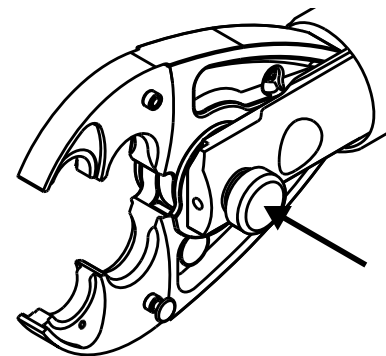

Figure 4
4. Press lock pin through tool head until it locks in place. Pin should not pull free and tool head should be able to rock back and forth slightly. (Fig. 4)